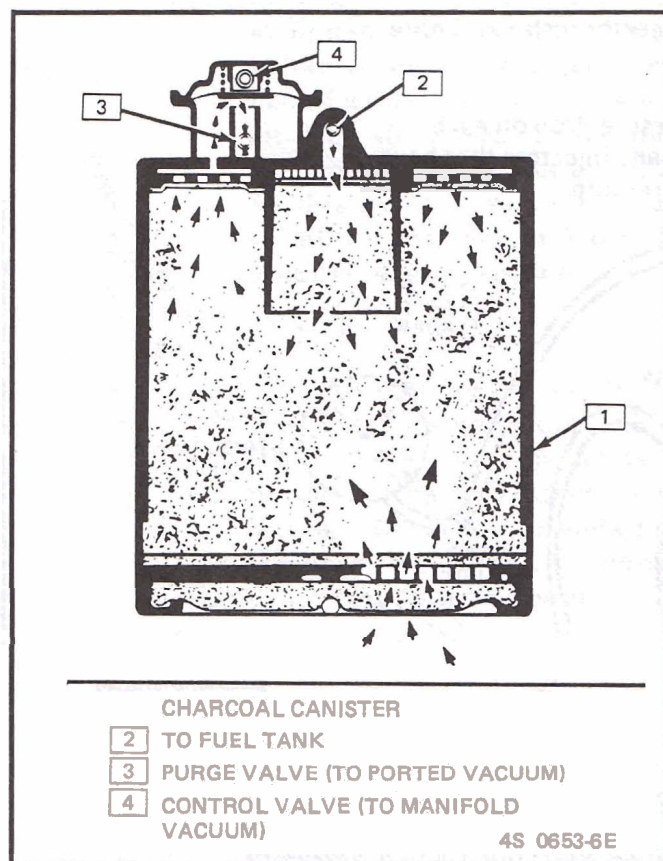

Figure 35 Charcoal Canister- Purge Valve 2.8L
2. Port injectors to fuel rail and pressure regulator assembly (11).
3. Rotate injector retainer clips (87) to locking position (figure 35)